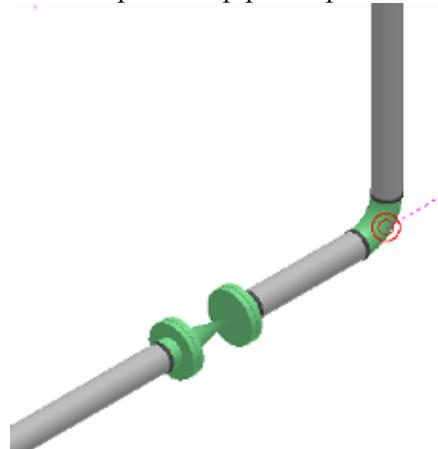

Figure 27: Placed Check Valve
18. An outline of a check valve (base part) with mating flanges will appear in the graphic view at the active placement point. The software uses P&ID and the design basis to select the appropriate component. Click **Finish** on the **Insert Component** ribbon to place the pipe component, as shown in Figure 27.